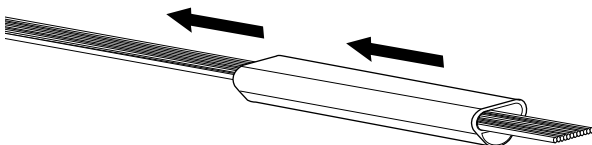

Figure 5
4.2 Insert one of the ribbons or fiber through a splice protector sleeve. Slide the sleeve out of the way (Figure 5).